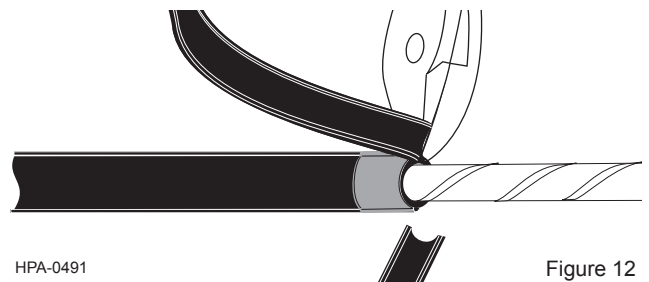

Figure 12
4.7 Using care to avoid damaging the cable core, use side cutters or scissors to trim off the split sheath sections at the tape wraps (Figure 12).